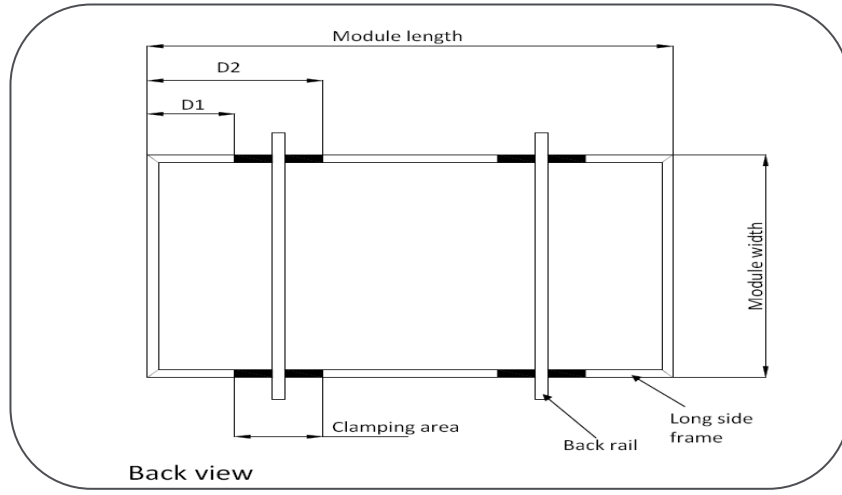
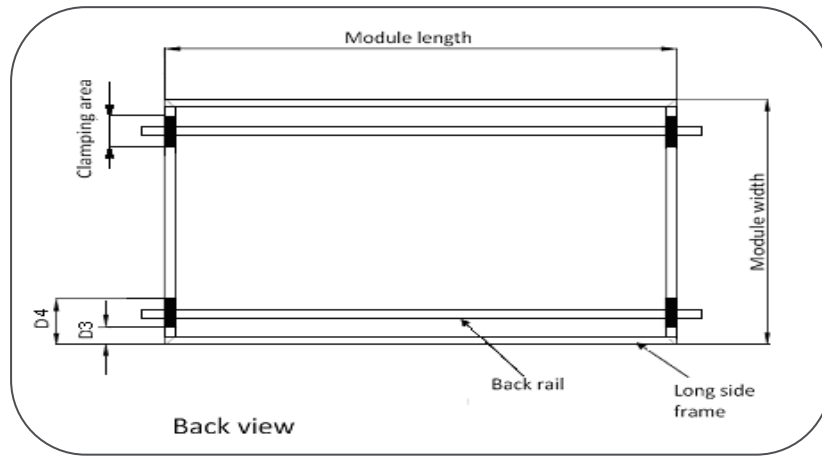

Figure 2 Long rail mounting clamp range ($D1$ and $D2$)
Figure 3 Short rail mounting clamp range ($D3$ and $D4$)
- b. The ranges of mounting places are illustrated in Figure 2 and Figure 3.
- c. Clamp and frame should attached well without gap as picture ③ shown below.
- d. Please fix clamps on system rails as the picture④ shown below.
- e. Please tighten the screws in bolt torque of 20 N · m, then finish the installation as the picture⑤ shown below.
- Clamp on the long side of the frame (see Figure 2, measurements below)
- Clamp on the short side of the frame (see Figure 3, measurements below)